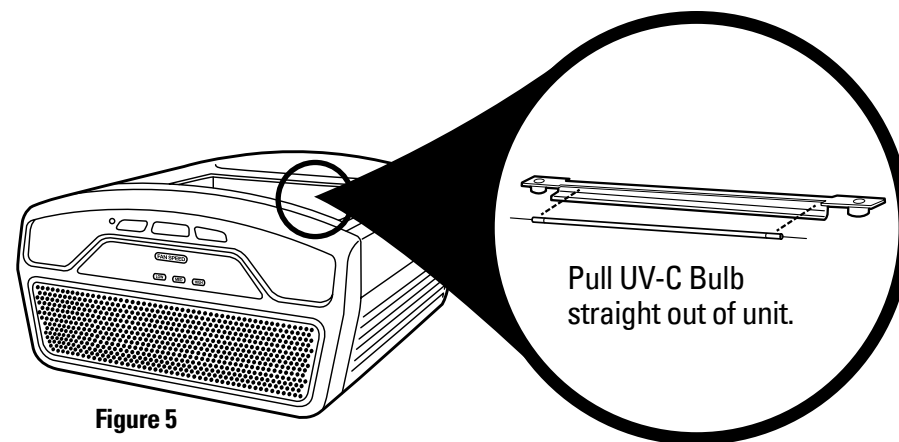

Figure 5
3. After removing the Front Cover from the unit, use a Philips head screwdriver to remove two (2) screws and detach the UV-C Shield.
4. The UV-C Bulb is removed by carefully grasping the bulb with a clean cloth or tissue and pulling the bulb straight out of the unit (Figure 5).